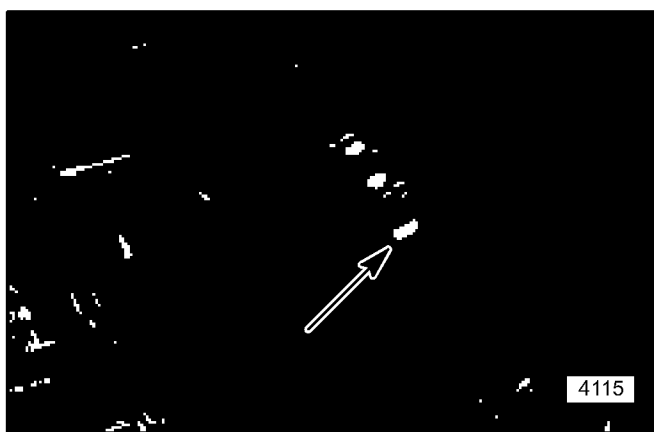
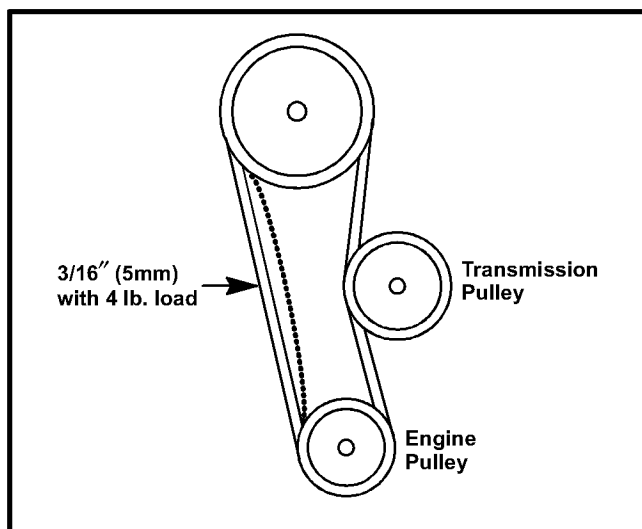

FIGURE 15
FIGURE 16
11. **Drive Belt Adjustment;** Pull back on the clutch lever to engage the drive belt. Adjust the nut on the Drive Belt Adjustment Screw (See FIGURE 15) until there is a 3/16" (5mm) deflection by four pounds of force on the side of the drive belt opposite the transmission (See FIGURE 16).
4. Disconnect the drive belt adjustment screw from the bellcrank (Refer to FIGURE 15) and detach the tension spring from the top of the transmission (See FIGURE 18).